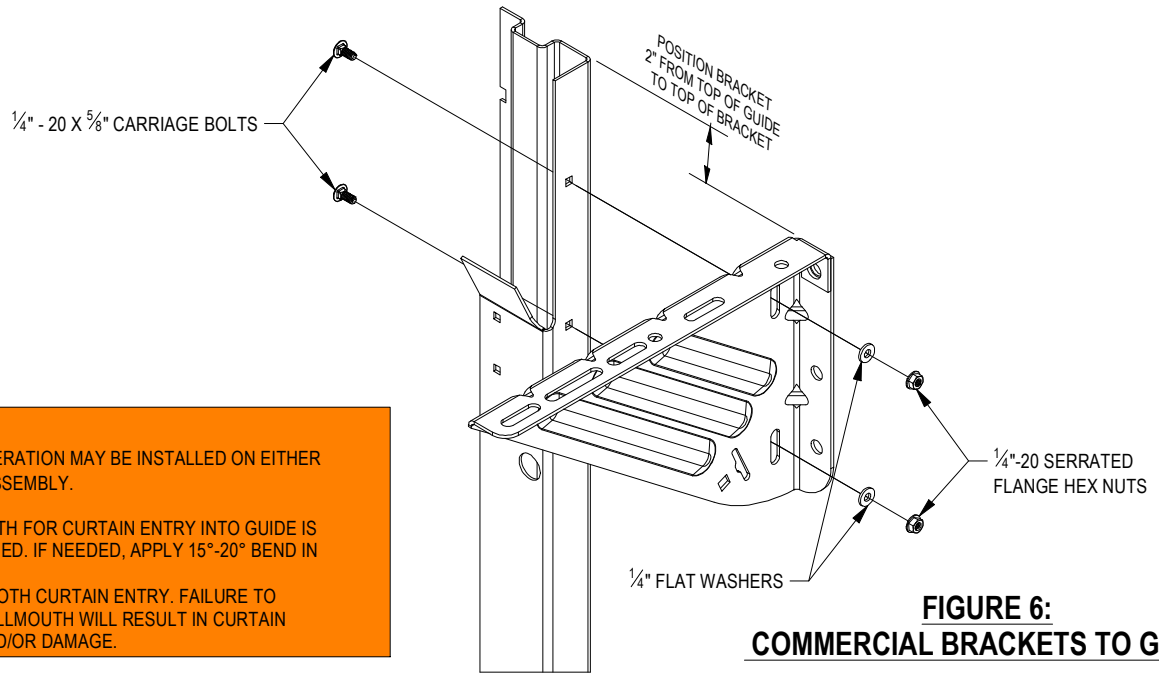

FIGURE 6:
- Attach Commercial Brackets to guides, locating top surface of Bracket 2" below top of guide. Use two (2) $\frac{1}{4}$ " - 20 x $\frac{5}{8}$ " Carriage Bolts, $\frac{1}{4}$ " - 20 Serrated Flange Hex Nuts, and $\frac{1}{4}$ " Flat Washers per Bracket for tensioner and the non-tensioner (drive) end for push-up operation. **See Figure 6.**